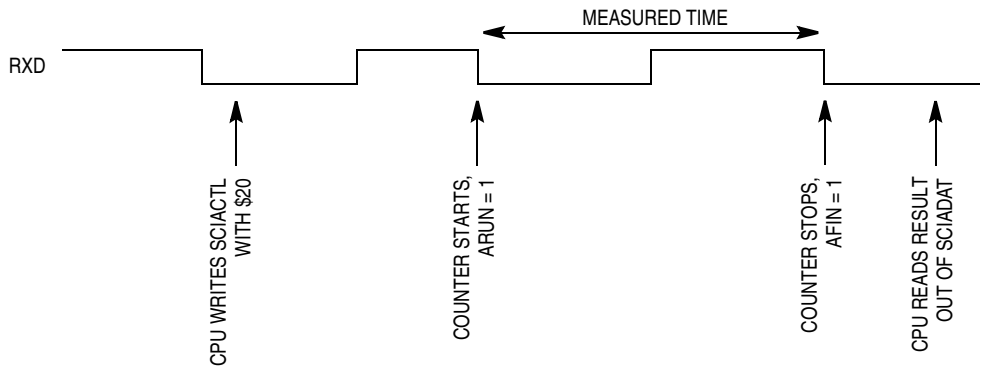

Figure 15-21. Bit Time Measurement with ACLK = 0
1. **ACLK = 0** — The counter is clocked with the bus clock divided by four. The counter is started when a falling edge on the RxD pin is detected. The counter will be stopped on the next falling edge. ARUN is set while the counter is running, AFIN is set on the second falling edge on RxD (for instance, the counter is stopped). This mode is used to recover the received baud rate. See Figure 15-21.